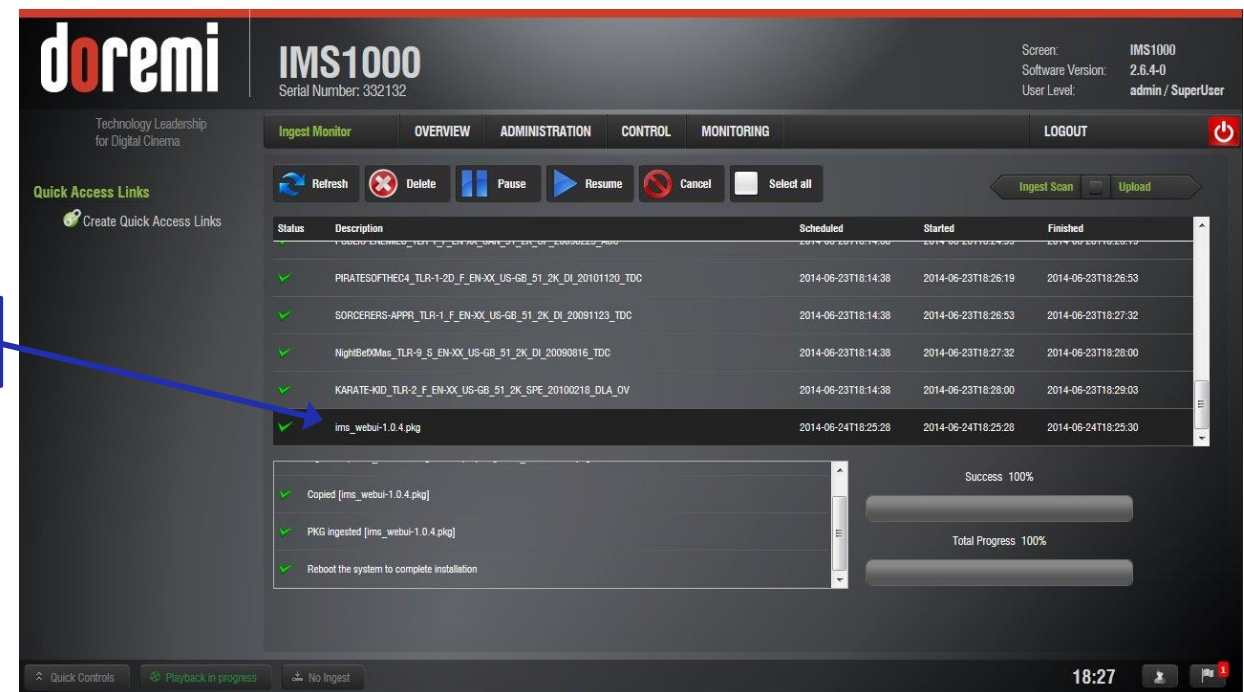

Figure 350: Package Ready for Ingest
- When the unit has finished rebooting, login and go to Control → Ingest Manager → Ingest Monitor. The package will be available for ingest (Figure 350).